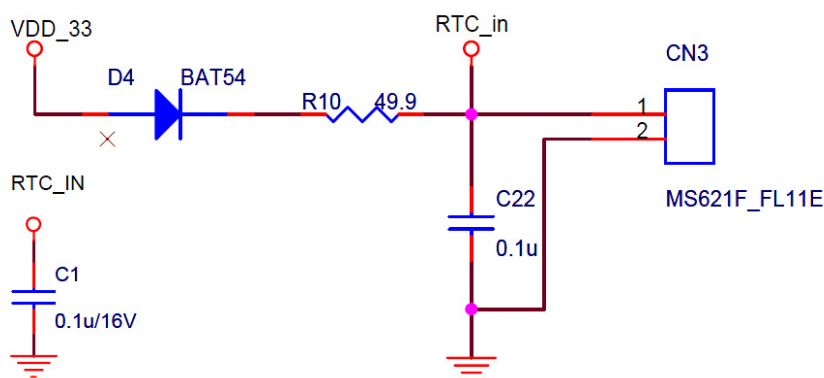

Figure 36: RTC Battery Reference Circuitry
To implement the RTC Battery according to the Underwriters Laboratories Inc (UL) guidelines, battery cells must be protected against a reverse current going to the cell. This can be done by either a series Schottky diode or a series resistor. The safest way, and the one recommended by the *SMARC* Consortium, is to implement a RTC battery circuitry using a Schottky diode as shown in Figure 36. The diode is placed in series with the positive battery terminal. The diode anode is on the battery side, and the cathode on the Module *VDD_RTC* side.